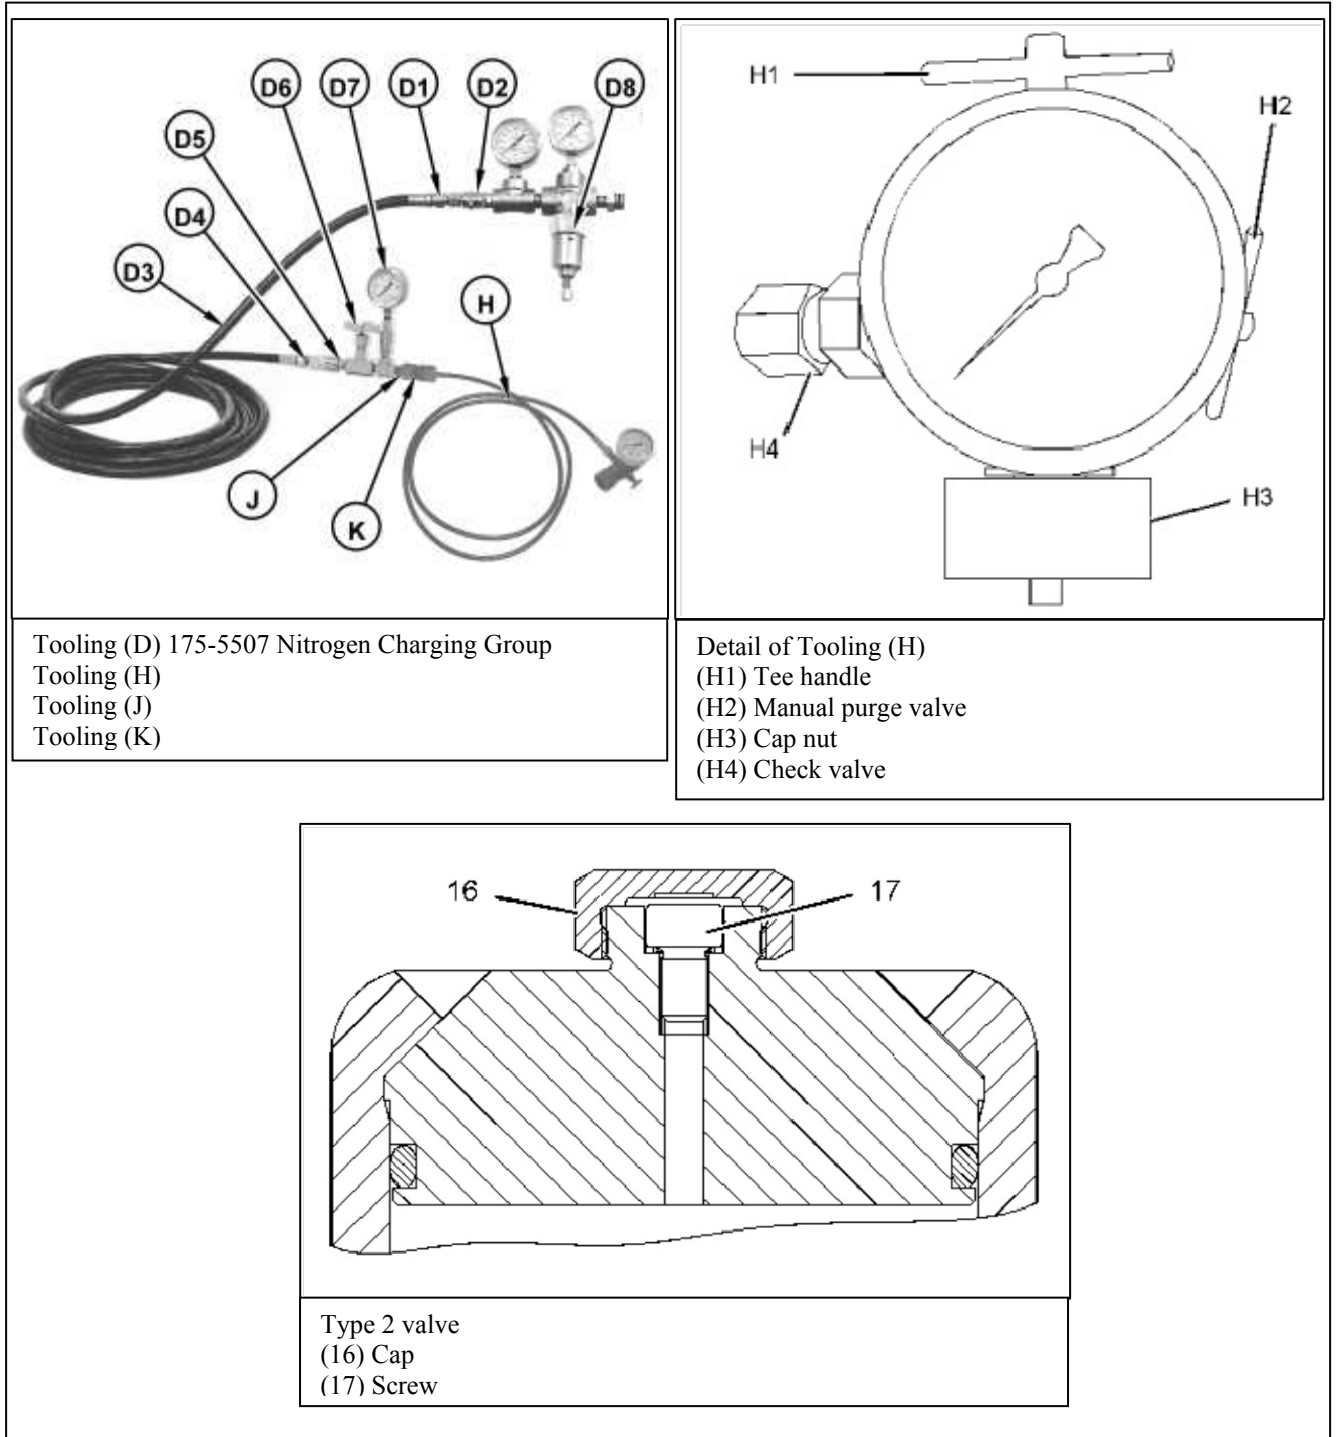

Figure 37: Type 2 Valve references
2. Assemble tooling (D), tooling (H), tooling (J), and tooling (K). Refer to Figure 37.